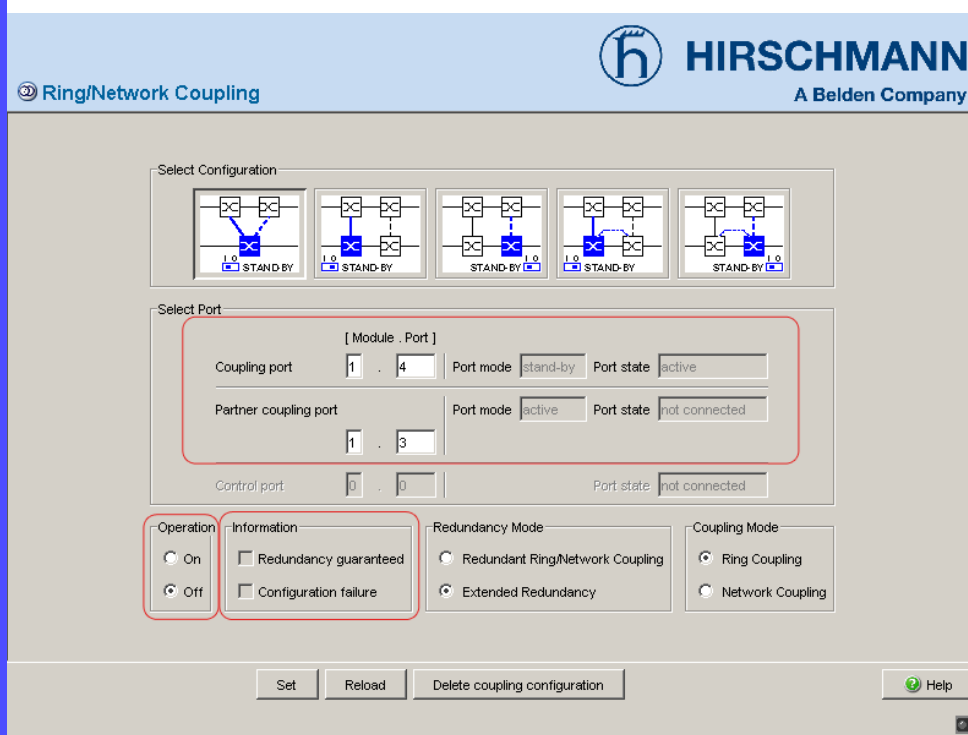

Fig. 14: Selecting the port and switching on/off the function
- Select the partner coupling port (see Fig. 14), (see Table 7 on page 36).
- Select the coupling port (see Fig. 14), (see Table 8 on page 36).
- Switch on the function In the frame "Operation" (see Fig. 14).
The displays in the “Select port” frame mean (see Fig. 14):
The displays in the “Information” frame mean (see Fig. 14):